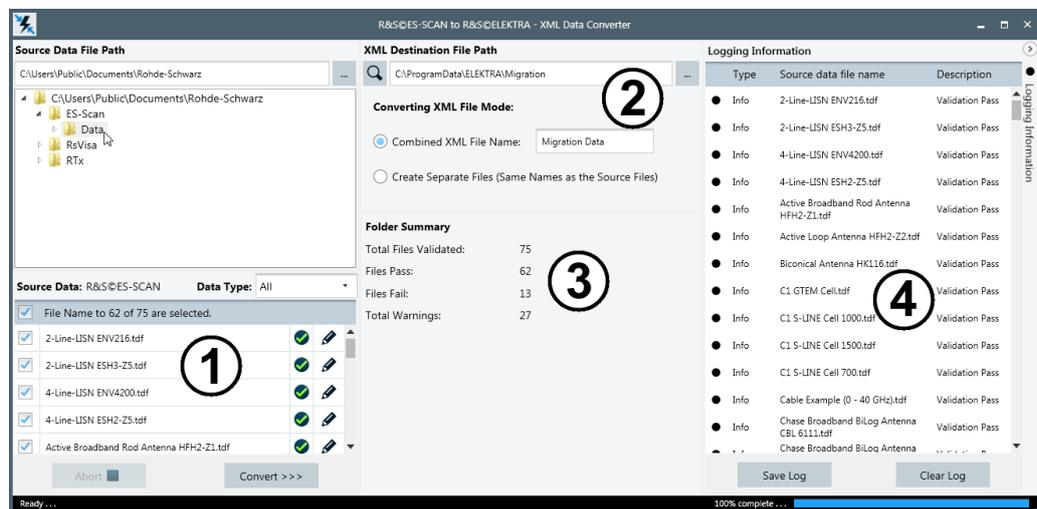

Figure 2-7: Source data selected for conversion to XML data
In the list of "Source Data" files (1), you can select the available files individually. In this dialog section, if you check the checkbox on top of the list, the tool selects all files that have passed validation (see sections (3) and (4) in Figure 2-7).